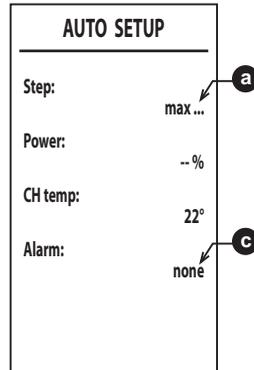

fig. 53
- If the ignition phase is unsuccessful, the message **[max_err]** appears at point **a** and an error code at point **c** (fig. 53). Possible causes of failed ignition are listed in **Note 2**. Exit Auto Setup with button , eliminate the fault and repeat the procedure from point 1.